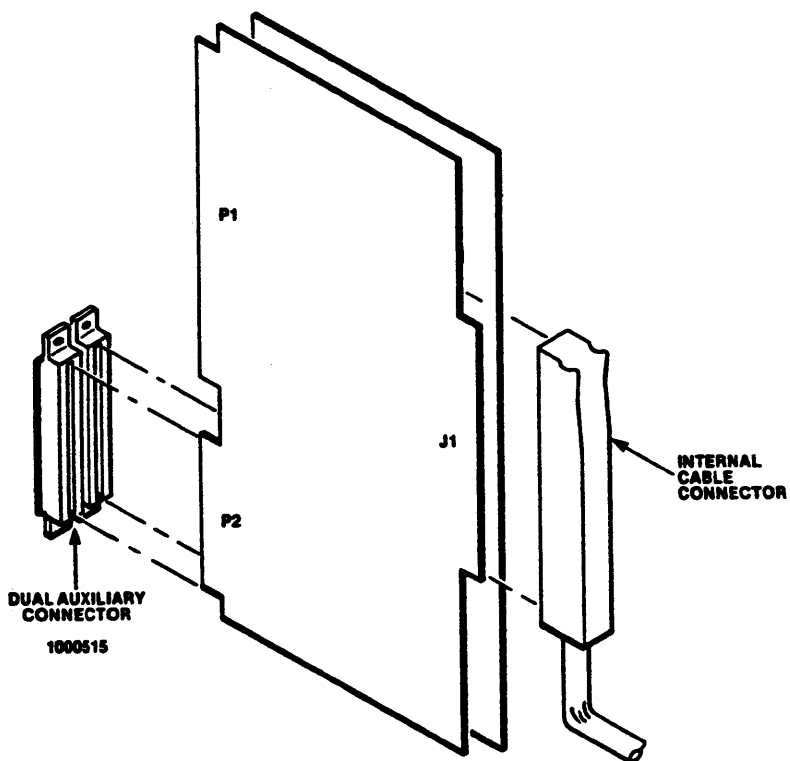

Figure 4-5. Series IV, Auxiliary Connector Installed on a Two-Board Set
4. Installing an auxiliary connector (refer to Paragraph 4.5) and an internal cable assembly (refer to Paragraph 4.7), as required. Install the auxiliary connector on the board set (see Figure 4-5).
5. Installing the board, or board set, in the card cage, making sure that the board edges line up in the card cage guide slots (see Figure 4-4). When boards are lined up and resting on the backplane bus connectors, press down firmly on the lifters at the top corners of the boards until the P1 edge connectors (see Figure 4-5) are seated in the bus connectors.